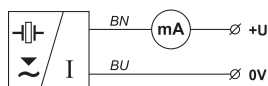

Fig. 25: Connection diagram of the ULM level meter (variant -I)
The ULM level meter or ULS sensor with a B or H type cable gland are connected to processing (display) units by means of a fixed PVC cable 5 m long. standard cable gland (B) or plastic bushings with a thread for protective hoses (H) can be used as a cable gland. Connection diagrams are shown in Fig. 25, 26, 27, 28 and 29.